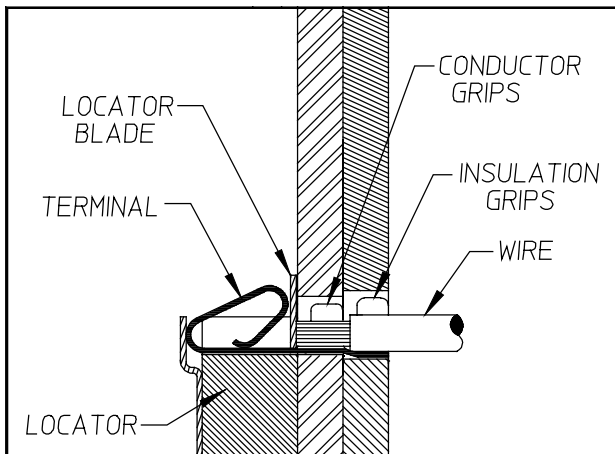

Figure 2
3. Place a wire into the terminal and up against the locator blade. (See Figure 2). On tools without locators line the wire up with the conductor and insulation grips visually.